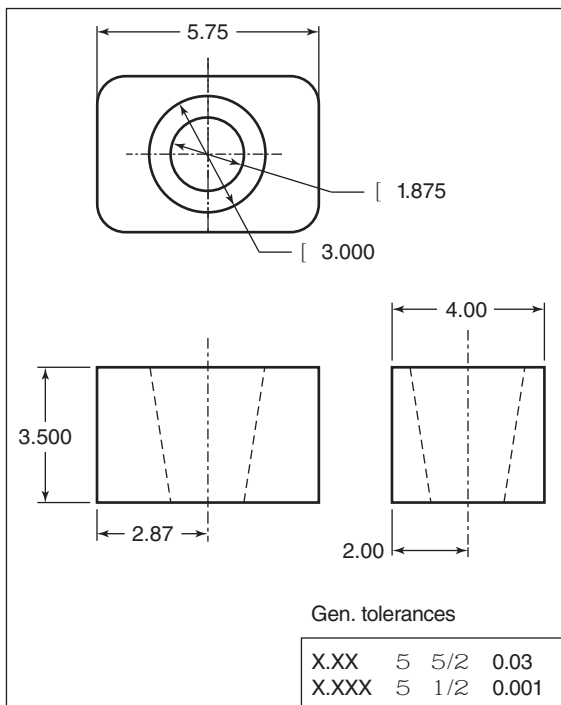

Figure 24-36 How many ways are there to cut this tapered hole?
42. Define the following setup terms: *coordinating*, *PRZ*—datum point, and *master tool* (24)
43. A machinist wishes to evaluate a CNC program *graphically* but the CNC control has no graphic capability. Name at least two of three possible solutions. (*Hint*: Think globally.) (24)
44. What is the best test before loading the program into the control and performing a dry run? (24)
45. How many program tests evaluate part dimensions? Describe them. (24)
46. What are the factors that determine how much program testing is advised for a given job? (24)
47. You wish to machine a cone-shaped hole in an aluminum block. It has been predrilled to 1.00-in. diameter (Fig. 24-36). List the various ways it can be machined, both manual and CNC. Which would be the most accurate with the best machine finish? (24)